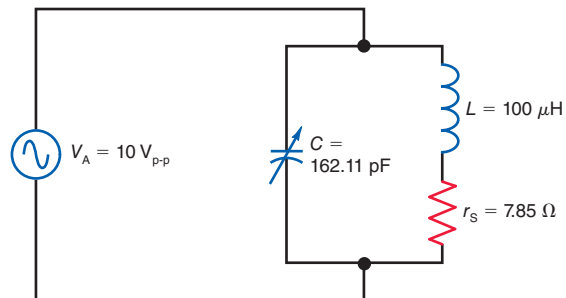

Figure 22-20
22.24 In Fig. 22-20, calculate the Q and bandwidth, Δf , if a 100-k Ω resistor is placed in parallel with the tank circuit.
22.26 In Fig. 22-20, convert the series resistance, r_s , to an equivalent parallel resistance, R_p .